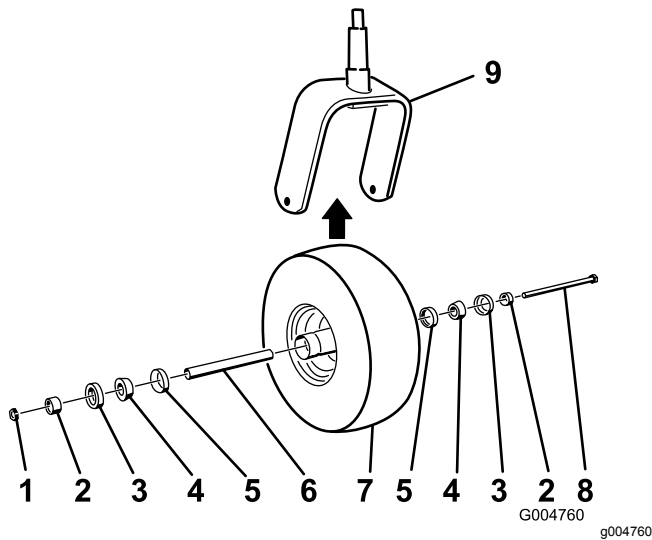

Figure 64
2. Remove the locknut from the bolt (Figure 64).
5. Assemble the caster wheel by pushing the cone bearings and seals, packed with grease, into the wheel hub, positioned as shown in Figure 64.